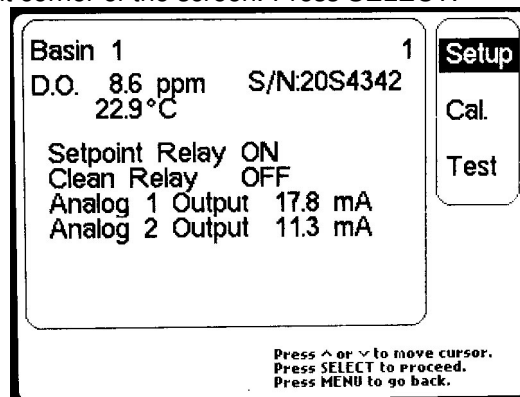

Figure 21 - Channel Info (D.O.)
2. The CHANNEL INFO screen (Figure 21), should have the word SETUP highlighted on the upper right corner of the screen. Press SELECT.
2. The CHANNEL INFO screen (Figure 21) should have the word SETUP highlighted on the upper right corner of the screen. Press SELECT.
2. The CHANNEL INFO screen (Figure 21) should have the word SETUP highlighted on the upper right corner of the screen. Press SELECT to enter the CHANNEL SETUP screen for that D.O. channel.
2. From the CHANNEL INFO screen (Figure 21), use the up or down arrow keys to highlight the word TEST on the right side of the screen, then press SELECT.
2. From the CHANNEL INFO screen (Figure 21), press the down arrow key once to highlight the word CAL, then press SELECT.